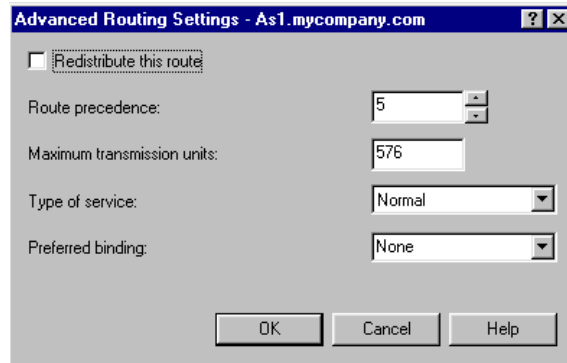

Figure 457. Advanced Routing Settings
11. Each of the Add route windows has an Advanced button. Specify the gateway address. Click the **Advanced** button. The Advanced Routing Settings window (Figure 457) appears.